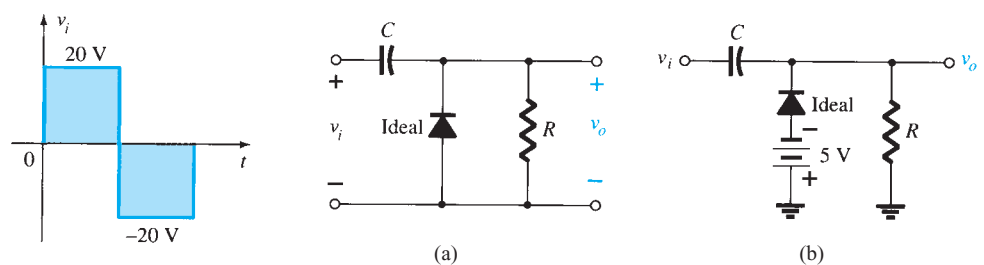

FIG. 2.181
37. Sketch v_o for each network of Fig. 2.181 for the input shown.